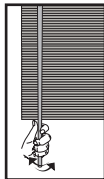

Figure 4.7; Push and Hold Programming Button
Press and hold the PROGRAMMING BUTTON. You will hear a TRIPLE BEEP (3) [Fig. 4.7], then release.